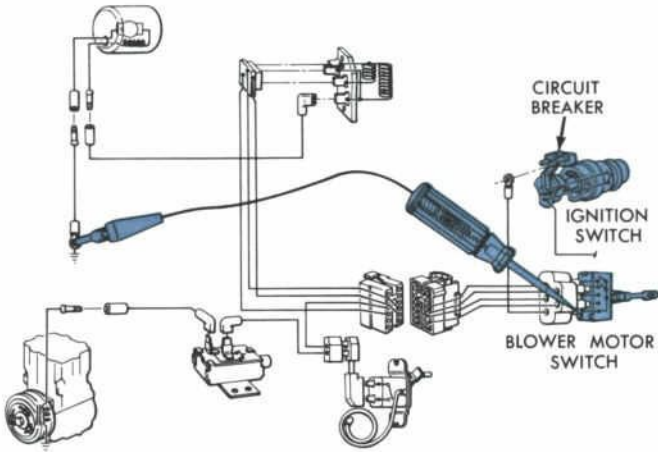

Fig. 18 — Testing Blower Switch
6. Next move the probe to the opposite (ignition switch side) terminal of the blower switch (Fig. 18). A glowing light here says the blower switch isn't working right. Replace a malfunctioning blower switch.